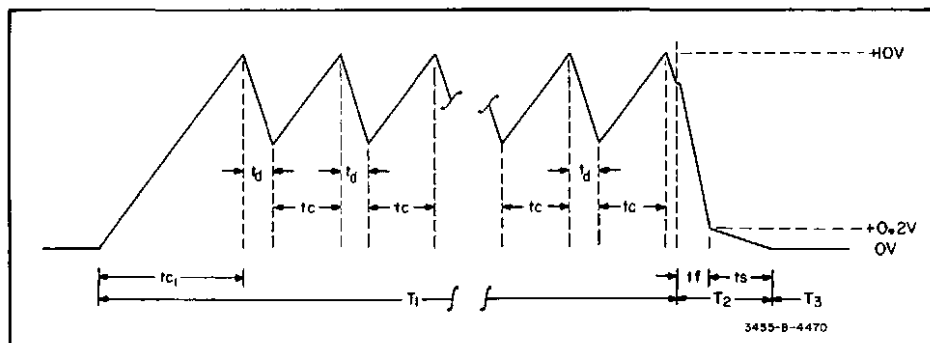
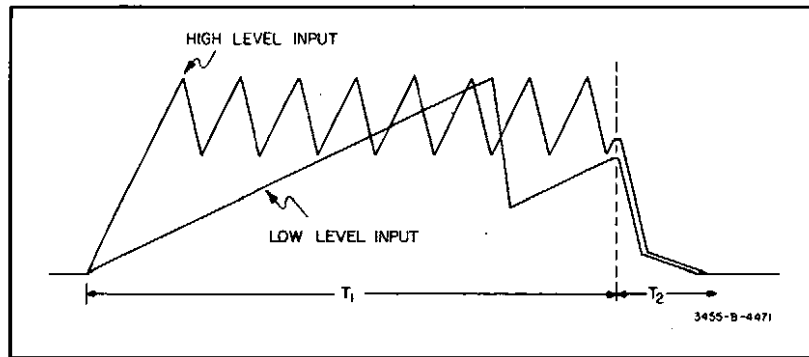

Figure 8-26. Integrator Output Waveform.
Figure 8-27. Integrator Output Waveforms for Different Input Voltage Levels.
8-89. The 3455A Multimeter uses a multi-slope integration technique to convert analog input signals to digital information. This method permits relatively high speed, high accuracy measurements. The following explanation of the A/D Converter operation uses the integrator output waveform pictured in Figure 8-26. The waveform shown is for a negative input voltage. For positive inputs the integrator output would range between 0 and - 10 volts. This waveform can be divided into three major portions: the integration period (time T1), the run-down period (time T2) and the auto-zero period (time T3). During time T1, the input voltage is integrated and the most significant digits of the output reading are determined. During time T2 the input voltage is removed and the charge remaining on the integrator capacitor is used to determine the least significant digits of the output reading. During time T3, the integrator is reset to approximately 0 volts and readied for the next reading. At time T0, the input voltage from the DC Preamp is applied to the A/D converter and causes the integrator capacitor to charge (period tc1). The rate at which the integrator capacitor charges depends upon the amplitude of the input voltage applied (see Figure 8-27). If the voltage at the output of the integrator reaches plus or minus 10 volts the 10 V comparator is enabled and interrupts the integrator controller. The controller switches in a reference current opposite in polarity amount of time (period td) and causes the integrator to discharge. At the end of period td, the reference voltage is removed allowing the integrator to again charge (period tc). This charge, discharge sequence may be repeated throughout integration period T1.
cycles. The number of charge-discharge cycles depends upon the input voltage applied (as shown in Figure 8-27) and whether the voltmeter is in the 5 or 6 digit readout mode. For the 5 digit mode, time  $T_1$ , is  $1/60$  second ( $1/50$  second for 50 Hz operation) and approximately 16 charge-discharge cycles occur for a full scale input. During 6 digit operation, time  $T_1$  is increased to  $8/60$  second ( $8/50$  second for 50 Hz operation), allowing approximately 127 charge/discharge cycles to occur for a full scale input.
8-93. Input and Reference Switching. The A/D input and reference switching is controlled by the inguard controller. The input from the DC Preamplifier is applied to the integrator input through a 19.8 kilohm resistor (R15) and FET switch Q3. The integrator charge current due to the input voltage is established by R15 and is equal to the input voltage divided by 19.8 kilohms. FET switch Q3 is closed throughout the integration period (time  $T_1$ , Figure 8-26) and is open during periods  $T_2$  and  $T_3$ .
iod (time  $T_1$ , Figure 8-26). For inputs less than 10 volts the output of the 10 volt Detect Amplifier is near 0 volts. As the input reaches 10 volts the output switches to approximately +5 volts.
**8-102. 0.2 volt Detect Amplifier.** The purpose of the .2 volt Detect Amplifier is to detect when the integrator has discharged to approximately .2 volts during period  $T_2$  (Figure 8-26). This information is used by the inguard controller in determining the point to remove the "fast-discharge" reference and apply the "slow-discharge" reference.